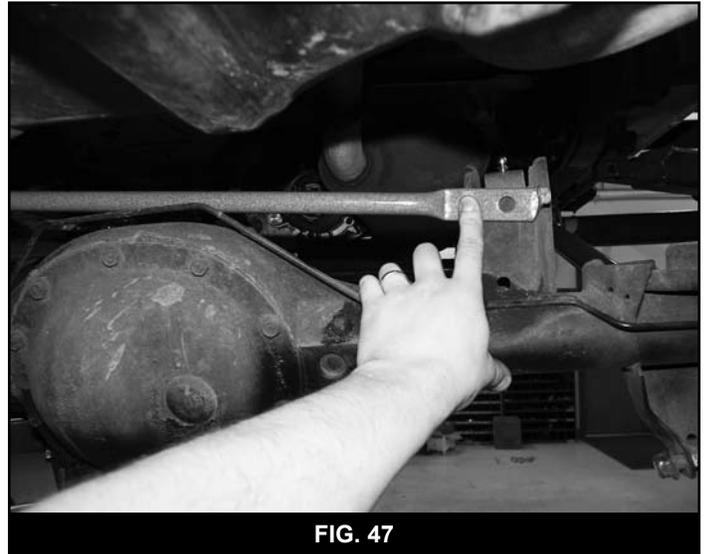

FIG. 47
35. Position the passenger's side of the brace tube against the back of the passenger's side upper control arm mount (Fig 47). The flat edge of the tube end should be roughly flush with the top edge of the upper control arm mount. Mark the position of the tube mounting hole on the mount. Drill a 7/16" hole at the mark. Loosely attach the brace tube to the mount with a 7/16" x 1" bolt, nut and 7/16" SAE washers (BP 752).